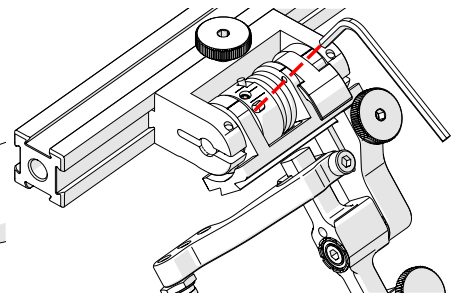

Fig. 126 - Unlatched position
3. Insert the short arm of a 3 mm hex wrench into the 3 mm slot (Fig. 126).